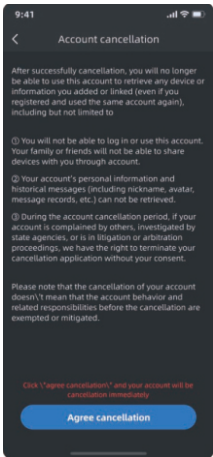

Figure 10
- 10) Figure 10: Display the prompt to cancel the account, click "**Agree cancellation**" to pop up a confirmation window for cancellation.